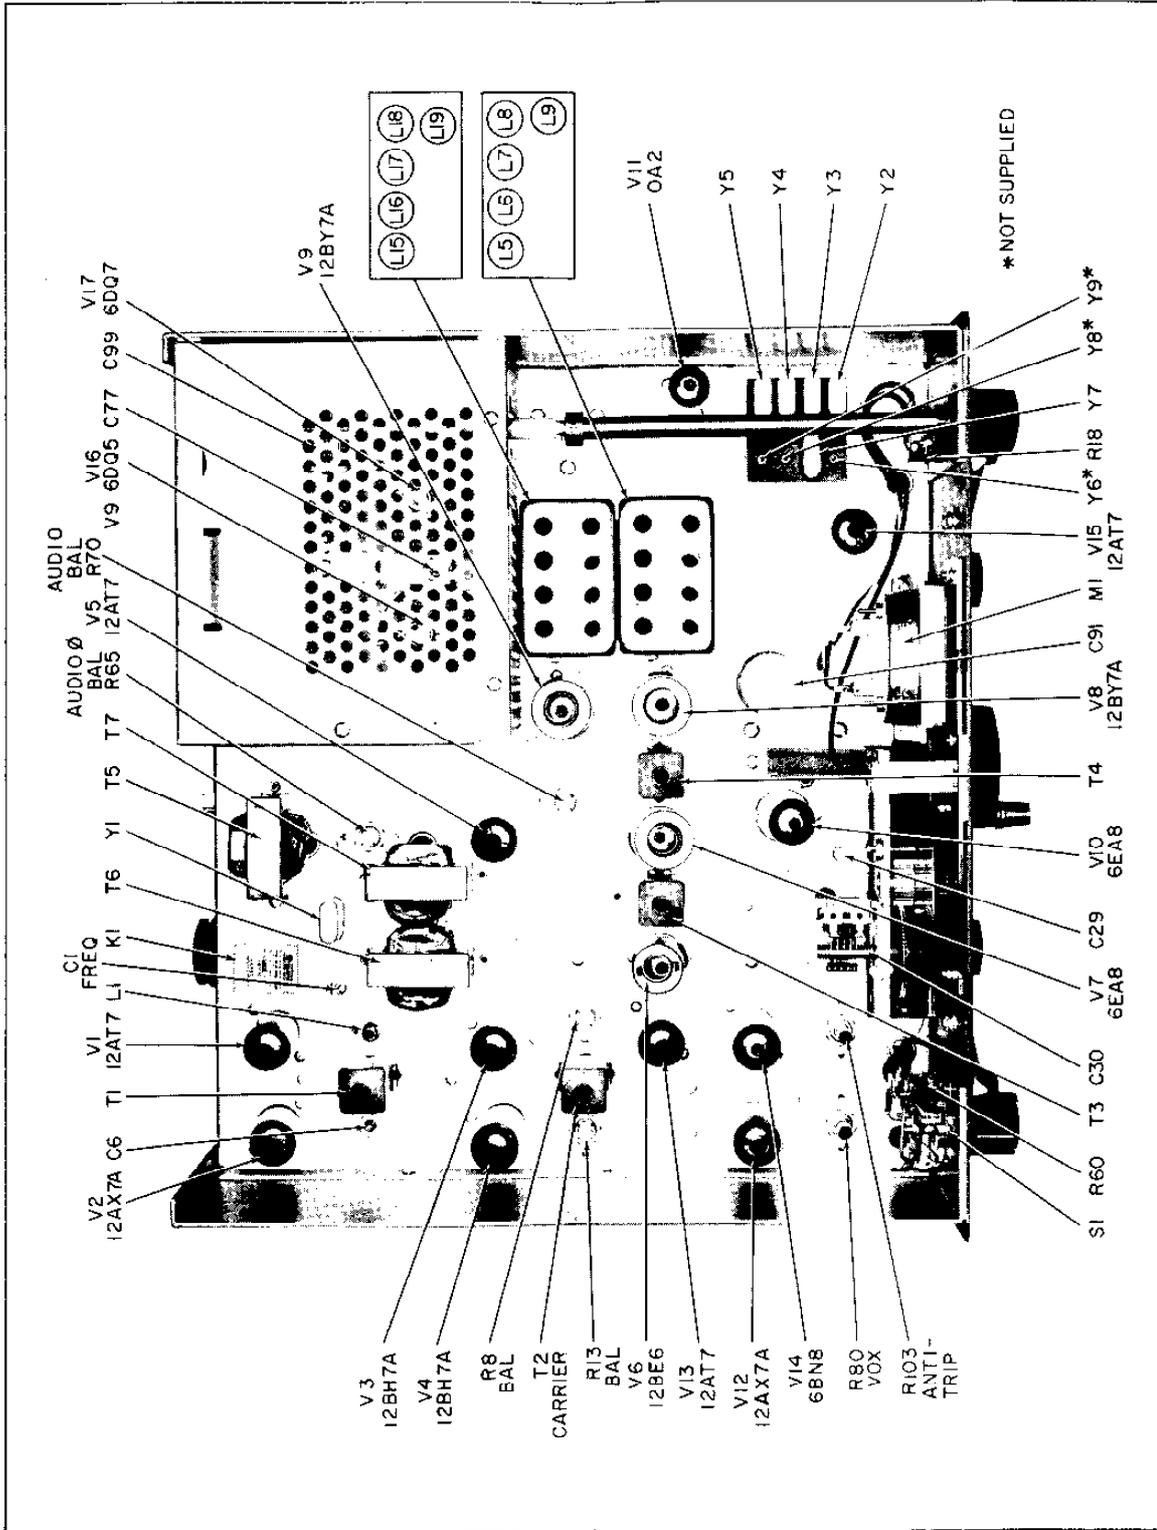
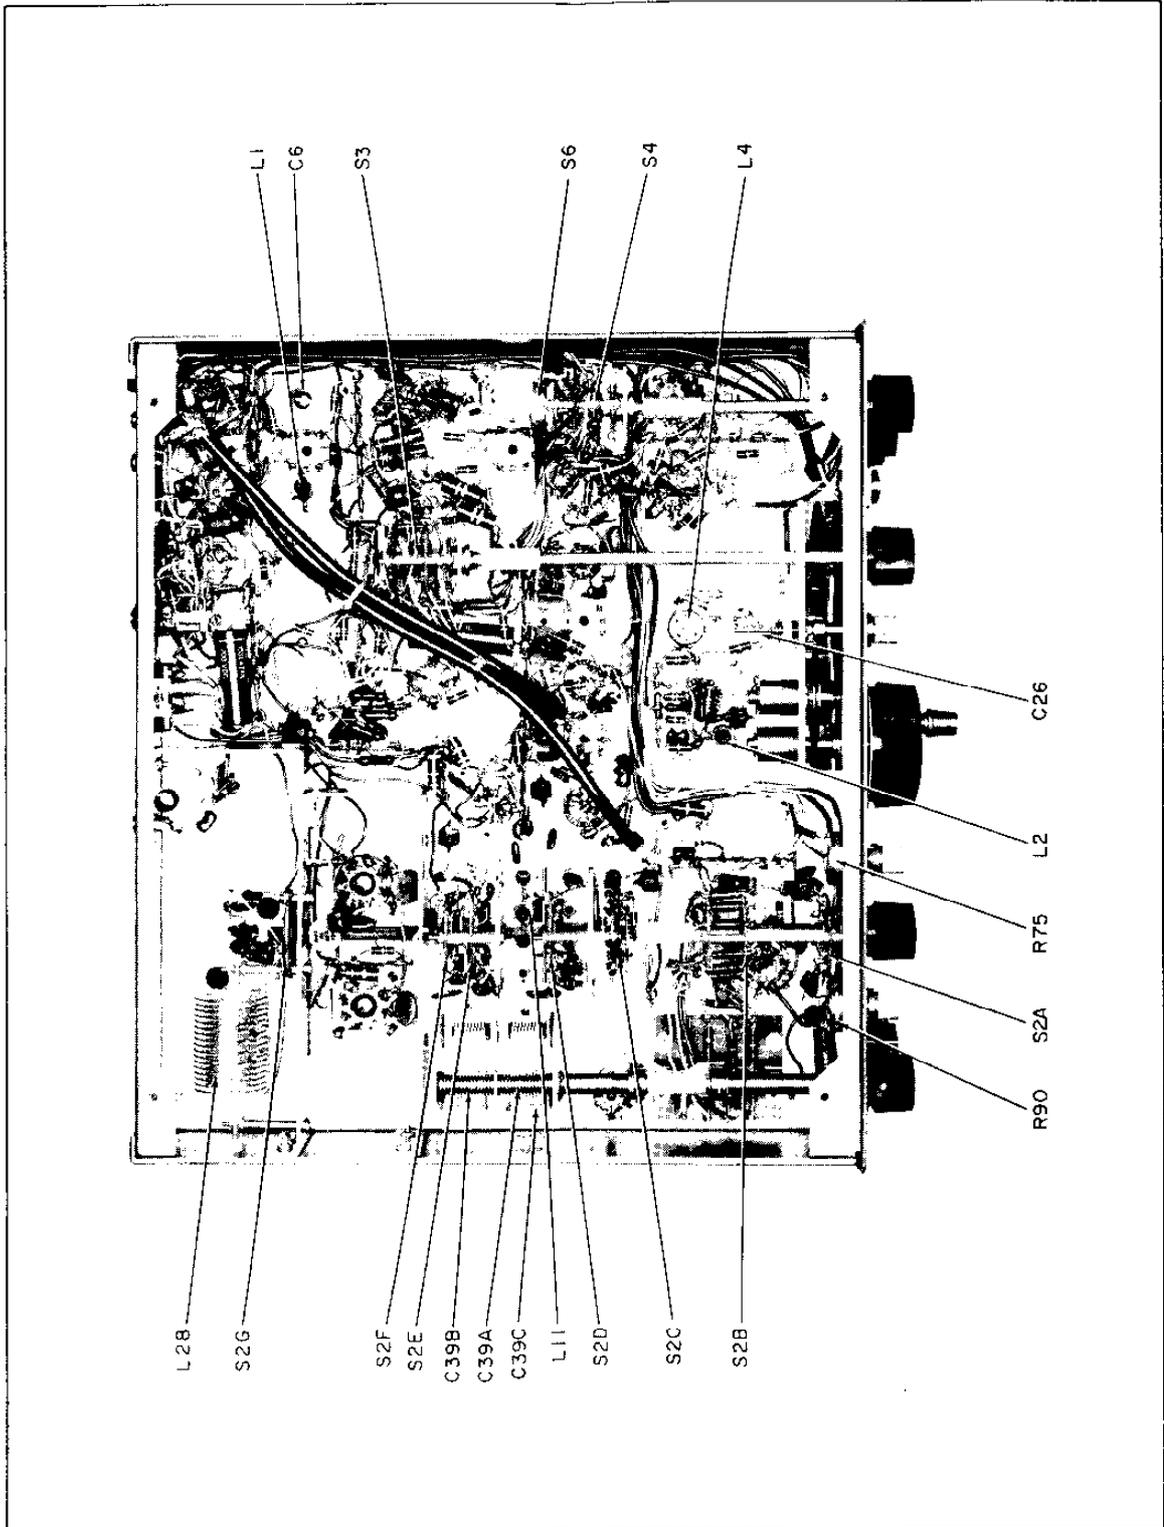

Figure 14. Top Chassis View Showing Component Locations.
Figure 15. Bottom Chassis View, Showing Components
13. Carefully adjust warping trimmer C1 in the HT-44 for zero beat. This trimmer is located near the top, left, rear corner of the chassis. (See figure 14.)
Do not make any adjustments unless the operation of this transmitter is fully understood and adequate test equipment is available. Refer to figures 14 and 15, the top and bottom views of the transmitter, for the locations of all adjustments.
3. **10-Meter Alignment.** - Tune the Signal Generator to 28.0 MC. Set the FINAL TUNING control to the low end of the 10-meter segment (approximately 8 on the inner scale) and the DRIVER TUNING control also to the low end of the 10-meter segment (approximately 8 on the inner scale). Increase the signal generator output level until a small indication is noted on the HT-44 RF output meter. Tune the FINAL TUNING control for maximum output indication. Adjust the cores of coils L5 and L15 (see figure 14 for location) for maximum output, reducing the signal generator output level as required to keep the meter reading at half-scale or less. Set the signal generator to 29.7 MC. Set the FINAL TUNING control to the high end of the 10-meter segment (approximately 9-1/2 on the inner scale) and set the DRIVER TUNING control to the high end of the 10-meter segment (approximately 9-1/2 on the inner scale). Adjust trimmer capacitor (C39C) located on the side of C39A (see figure 15) for maximum output while slightly rocking the DRIVER TUNING control. Return the signal generator to 28.0 MC and repeat the above alignment until tracking is accomplished. (NOTE: Trimmer C39C should not be readjusted on the other bands.)
4. **15-Meter Alignment.** - Tune the signal generator to 21.0 MC and set the FINAL TUNING control to the low end of the 15-meter segment (approximately 7-1/2 on inner scale). Set the DRIVER TUNING to the low end of the 15-meter segment (approximately 7 on the inner scale). Increase the signal generator output level until a small indication is noted on the RF output meter and adjust the FINAL TUNING control for maximum output, reducing the signal generator output level as required to keep the meter at half-scale or less. Adjust the cores of coils L6 and L16 (see figure 14 for location) for maximum output, reducing the signal generator output as required to keep the meter at half-scale or less.
7. 6.5-MC Trap Adjustment. - While on the 40-meter band, set the signal generator to 7.0 MC and adjust the FINAL TUNING and DRIVER TUNING controls for maximum output. Without changing the FINAL TUNING or DRIVER TUNING, reset the signal generator to 6.5 MC and increase the signal generator output level until a small indication is noted on the RF output meter. Adjust the 6.5-MC trap core, L11 (see figure 15 for location) for minimum output, increasing the signal generator output as required. A slight readjustment of L8 may be required after this adjustment.
Proceed as follows: Set the CAL. ADJ. trimmer to mid-range (dot up). Set the OPERATION switch to CAL. Set the BAND SELECTOR to 3.5 MC (80-meter). Tune the receiver to 3.5 MC on the 100-KC marker signal (BFO off). Set the HT-44 TUNING CONTROL (dial) to the red 500 (3.5 MC). Carefully adjust trimmer C29 for zero beat (see figure 14 for location).
If the dial error progressively increases in the same direction with the high-frequency end running out more than 3000 CPS, at this end, both L4 and C29 should be adjusted. Proceed as follows: Set the TUNING dial to 4.0 MC (red 1000) and the Receiver to 4.0 MC. Adjust the slug of L4 (see figure 15 for location) to zero beat. Set the TUNING dial to 3.5 MC (red 500), the receiver to 3.5 MC, and adjust C29 for zero beat. Repeat the adjustments at 4.0 MC and 3.5 MC until both points are on frequency.
Remove V15 (12AT7) from its socket to disable the heterodyne oscillator signal. Connect the probe of the RF voltmeter to the grid of the Second Mixer (pin 2 of V8). Set the FUNCTION switch to CW and the OPERATION switch to MOX. Set the BAND SELECTOR to any 10-meter segment. Set the TUNING control dial to 250 and advance the RF LEVEL control until a small indication is noted on the RF voltmeter. Adjust the core of the VFO output coil (L2, See figure 15) for maximum reading. Set the TUNING control to 450 on the dial. Advance the RF LEVEL control until approximately 0.5 volt RMS is indicated on the RF voltmeter (HP 410 B or equal). Adjust top and bottom cores of IF transformers T3 and T4 for maximum voltmeter indication, keeping the level below 1 volt to prevent overload and false settings. After the transformers have been adjusted as described, increase the RF LEVEL control until 1 volt is indicated on the voltmeter. Tune the VFO (TUNING) across its range (0 to 500) while watching the voltmeter. The voltmeter should read between 0.8 and 1.0 volt over the entire range of the dial (0 to 500). After completion of this alignment, be certain to replace V15 (12AT7) in its socket.
Adjust the RF LEVEL control for about 60 volts RMS output (60 on the HT-44 RF output meter). Carefully tune the FINAL TUNING control and observe the plate current dip and the output voltage peak. If both occur at the same setting, the amplifier is neutralized. If both do not occur together, adjust the neutralizing capacitor, C77 (see figure 14), in small increments (1/4 to 1/2 turn) until neutralization is accomplished.
When the HT-44 is used as an independent transmitter/exciter, there is normally no need for adjustment of the carrier frequency trimmer C1 (see figure 14 for location). However, when the HT-44 is to be used in conjunction with an SX-117 receiver as a transceiver, the carrier frequency trimmer C1 must be set correctly. For this procedure, see Section VII, TRANSCIVE (SLAVE) OPERATION.